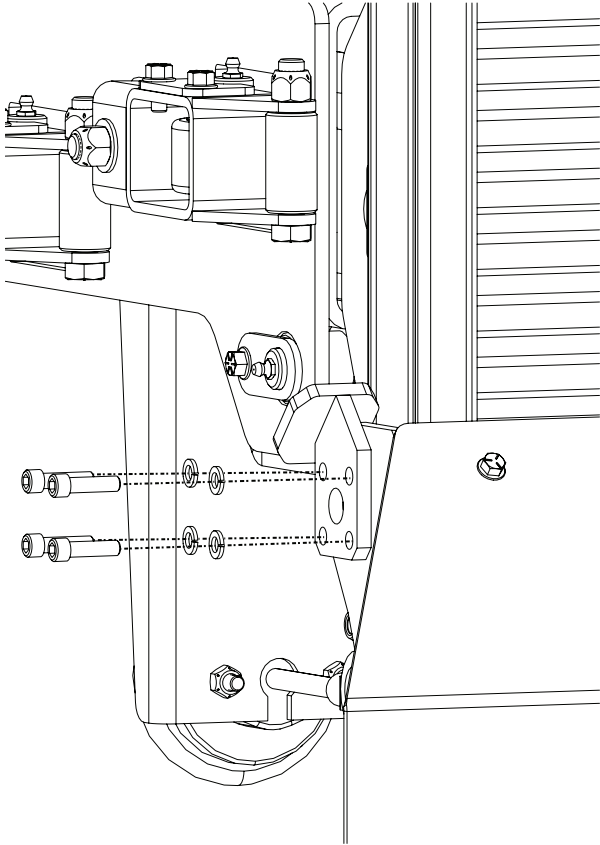

Figure 8
15. Install the new bolt with a lock washer through the stop bracket into the roller (Figure 8). It may be necessary to adjust the parts to get the bolt through the holes to the roller and it may be necessary to use an extension and a 9/16" socket to get the bolts started.